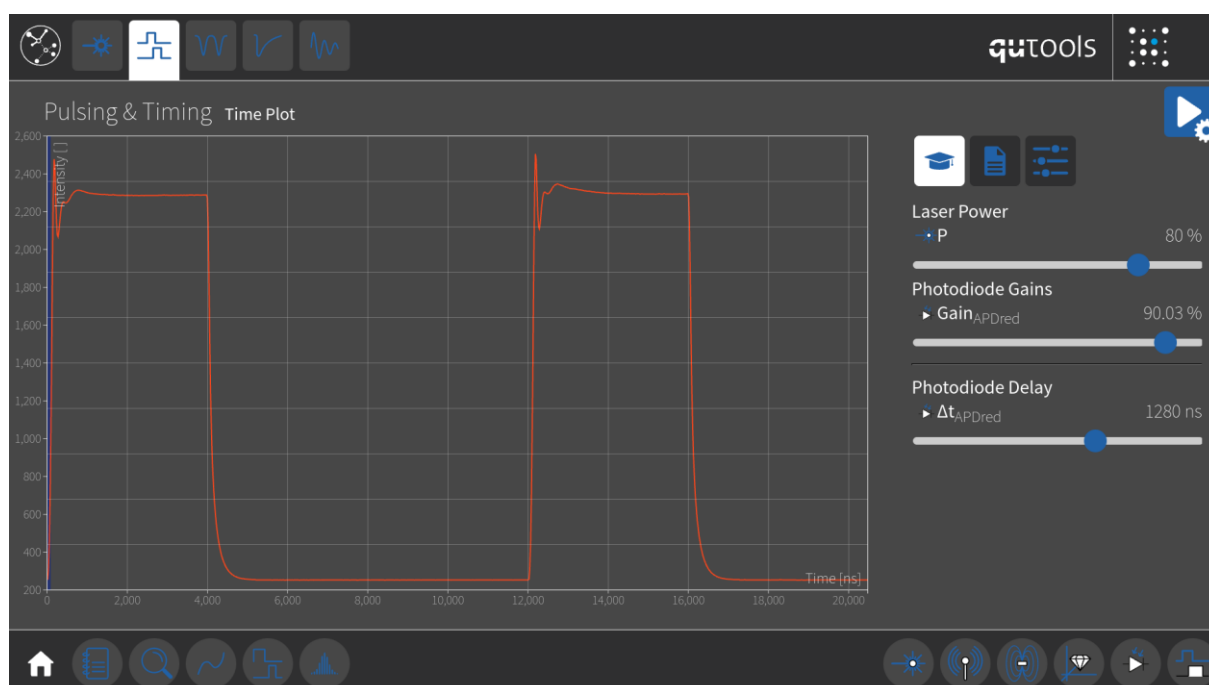

Figure 9 - Adjustments for the "red" PD measuring the fluorescence.
- Adjust the “red” gain such that the edge is steep, the peaks are not in saturation and the overshoot is not too high. The pulse shape should look like in Figure 9.